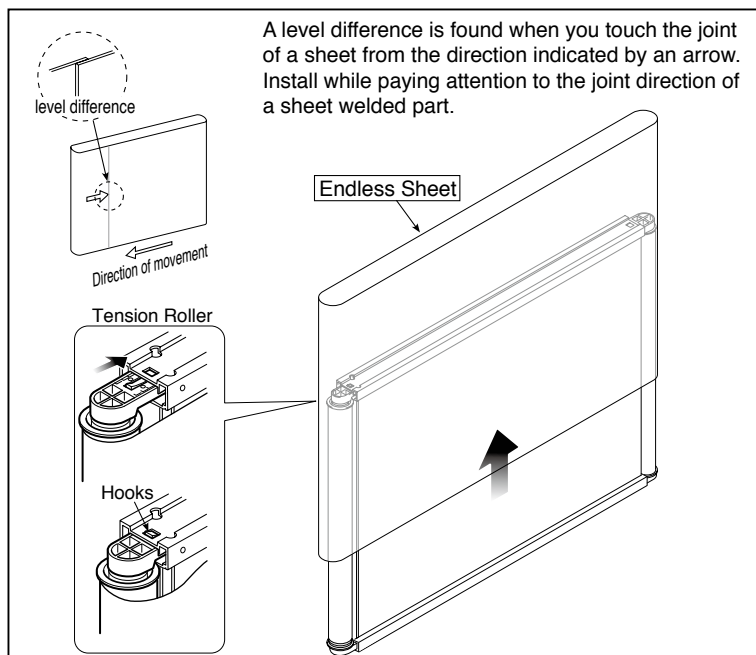

Fig.30
12) Replace the Sheet Motor Assy. (See Fig. 30)